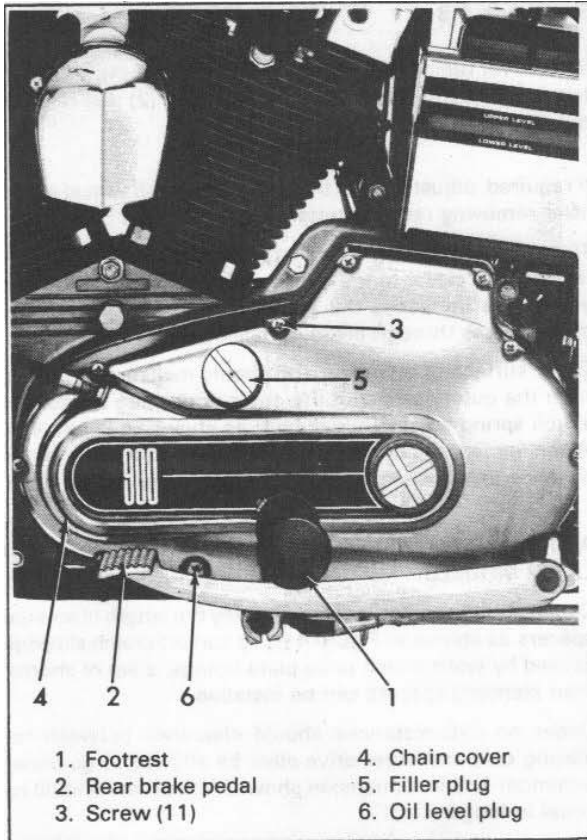

Figure 4-2. Removing Front Chain Cover
See Figure 4-2 and proceed as follows. Remove left footrest (1), and rear brake foot lever (2). Place an oil drain pan under clutch and remove front chain cover screws (3), cover (4) and gasket (not shown).
### ADJUSTING CLUTCH SPRING TENSION (1970 TO EARLY 1974 MODELS) (Figure 4-2)